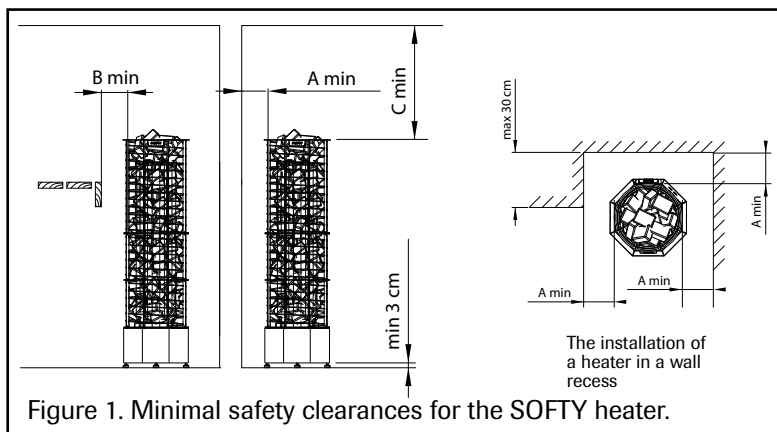

Figure 1. Minimal safety clearances for the SOFTY heater.
\*\*) See figure 1
- The heater can also be installed into a wall recess, see figure 1.